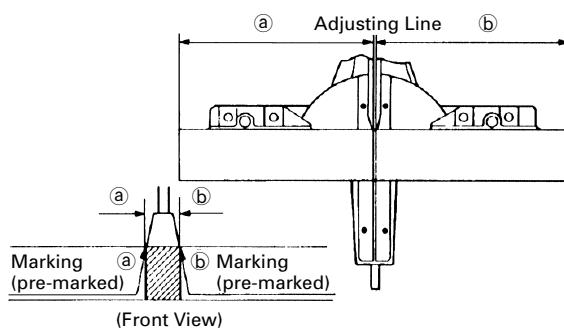

Fig. 20
- (1) As shown in Fig. 20 the width of the saw blade is the width of the cut. Therefore, slide the workpiece to the right (viewed from the operator's position) when length (b) is desired, or to the left when length (a) is desired.
- (2) Once the saw blade reaches maximum speed, push the handle down carefully until the saw blade approaches the workpiece.
- (3) Once the saw blade contacts the workpiece, push the handle down gradually to cut into the workpiece.
- (4) After cutting the workpiece to the desired depth, turn the power tool OFF and let the saw blade stop completely before raising the handle from the workpiece to return it to the full retract position.